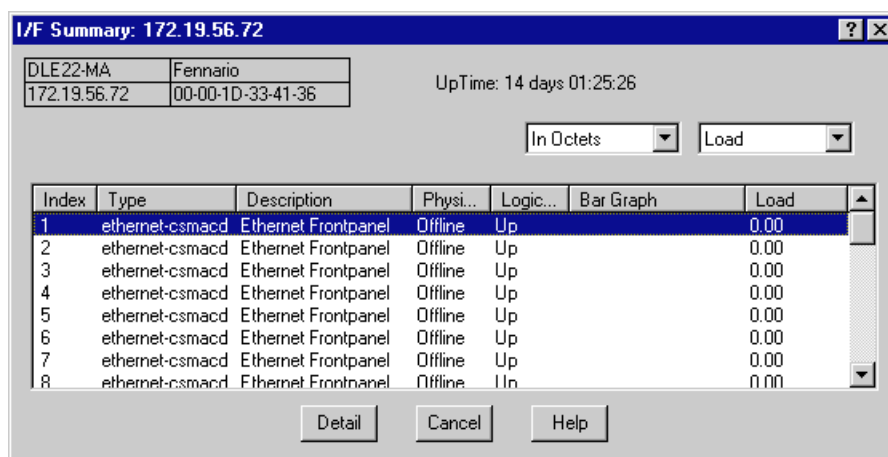

Figure 2-12. The I/F Summary Window
2. Click again to select **I/F Summary**. The I/F Summary window, Figure 2-12, opens.